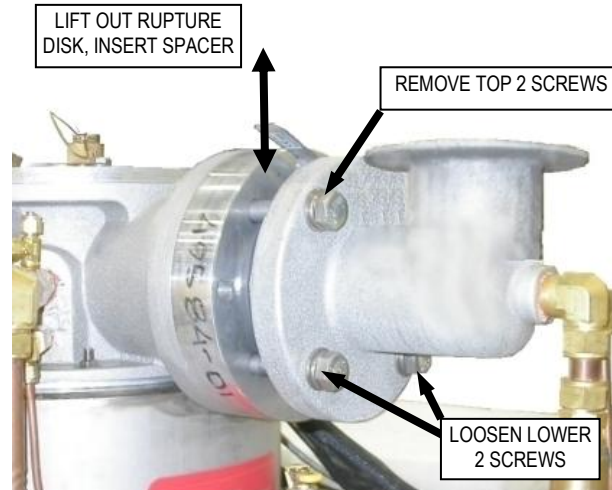

Figure 7-5 - Remove the top two mounting screws to remove the rupture disk. HFO shown.
(Magnets with Vent-Elbows and Rupture Disks. See Figure 7-5)
- Remove the two top screws (Figure 7-5) and loosen the two bottom screws that secure the vent pipe to the top hat assembly.